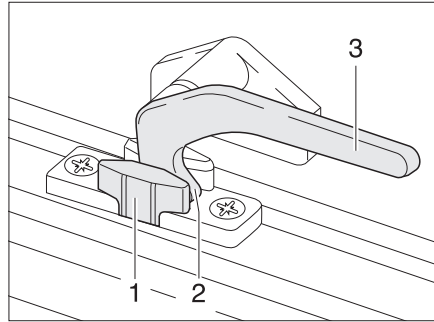
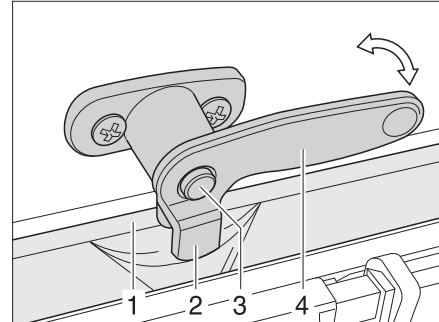

Fig. 69 Catch lever in the "Continuous ventilation" position
Fig. 70 Catch lever with safety knob in "Continuous ventilation" position
- "Continuous ventilation" (Fig. 69)
- If it exists, press the safety knob (Fig. 70,3) down and hold it.
- Turn the catch lever (Fig. 69,3 or Fig. 70,4) a quarter turn towards the centre of the window.
- Return the catch lever to its initial position. In the process the locking catch (Fig. 69,2 or Fig. 70,2) is retracted into the recess of the window catch (Fig. 69,1 or Fig. 70,1).